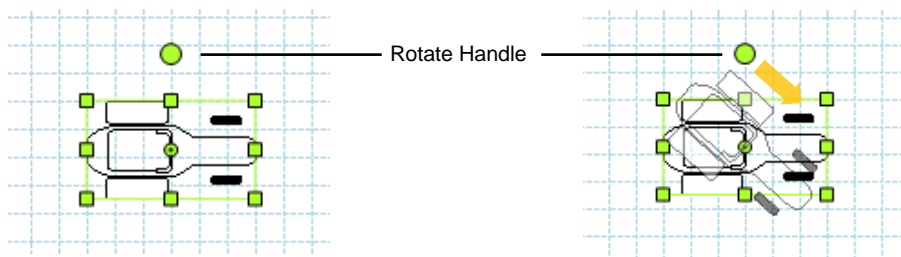

Figure 118. Rotating a Symbol
1. Drag the rotate (green) handle to rotate the symbol, as shown in Figure 118.